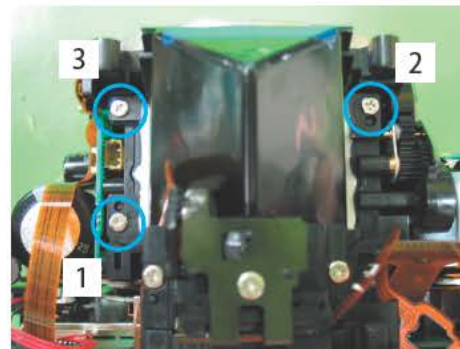

Fig. 109
- (2) Screw in the order of the Fig. 109. (Screws are easy to be loose, so be careful.)